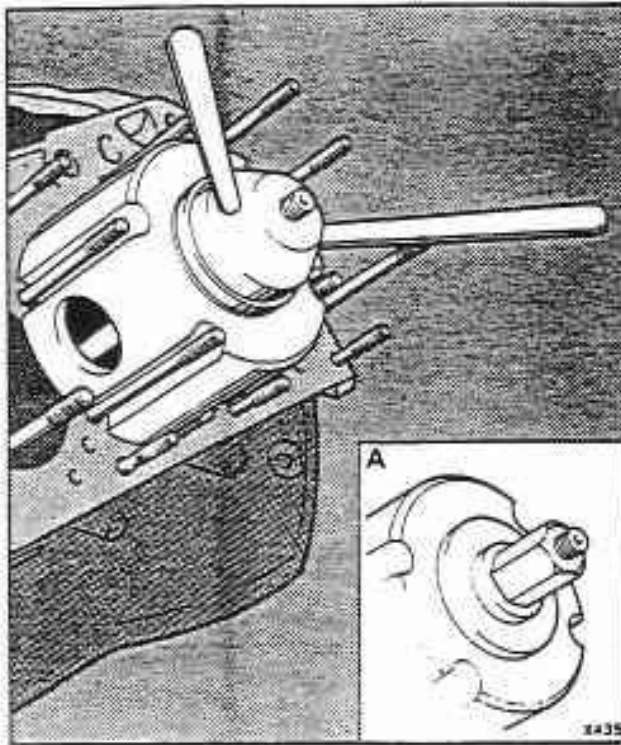

Fig. E4-3 Cylinder liner extraction
2. Using the cylinder liner extraction tool RH 7095 as shown in figure E4-3, withdraw the liner from the top face of the crankcase.